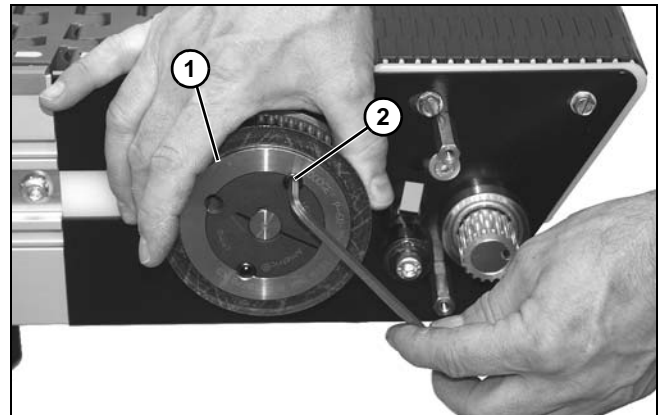

Figure 113
4. While holding onto pulley (**Figure 113, item 1**), remove one set screw (**Figure 113, item 2**) on pulley.